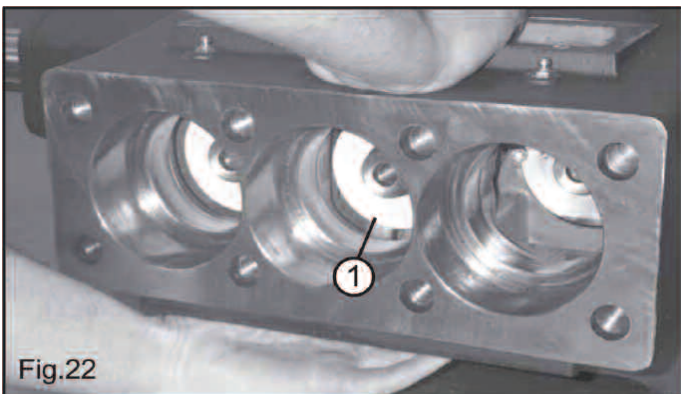
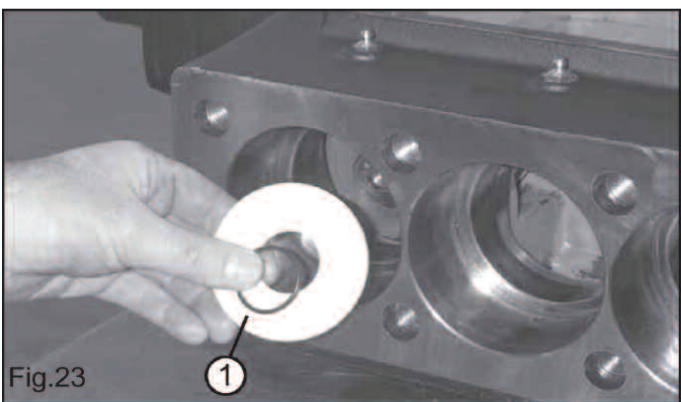
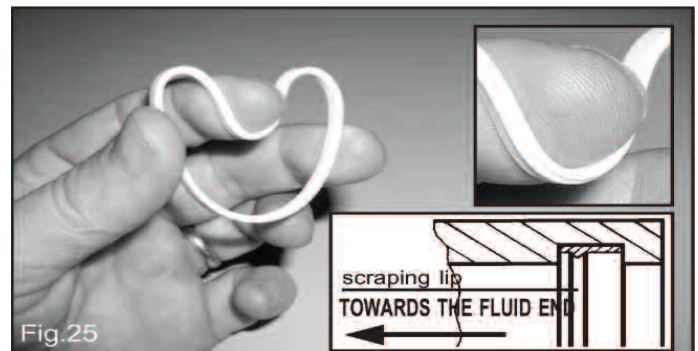

Fig.22
Fig.23
Fig.25
Remove the wipers from the piston guides (1, Fig. 22 and Fig. 23).
In order to fit the new scraper in place shape it manually as shown in Fig. 25.
**VERY IMPORTANT!** The scraper is provided with an internal lip which performs the correct scraping effect only if oriented toward the fluid end. See window inside Fig. 25. Put the pumping unit components together and fit them back in the pump crankcase. Tighten the plunger screws (1, Fig. 18) with a torque wrench set for 72.3 ft. lbs. Grease the pressure packings through the greasers (2, Fig. 23) by means of a hand pump. Stop greasing when the pump trigger becomes hard to operate: that means the grease chamber is full. Head back in place, head screws tightened at 260.3 ft. lbs.